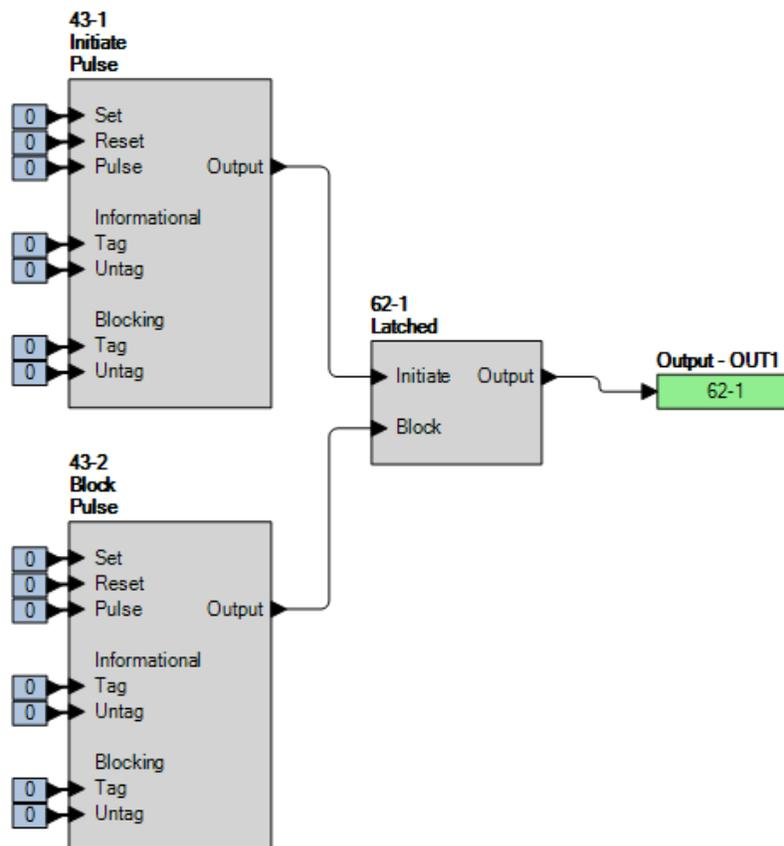

Figure 49-7. BESTlogicPlus Settings (Latched Mode)
Step 2: Use BESTCOMSPlus to configure the BESTlogicPlus programmable logic shown in Figure 49-7.